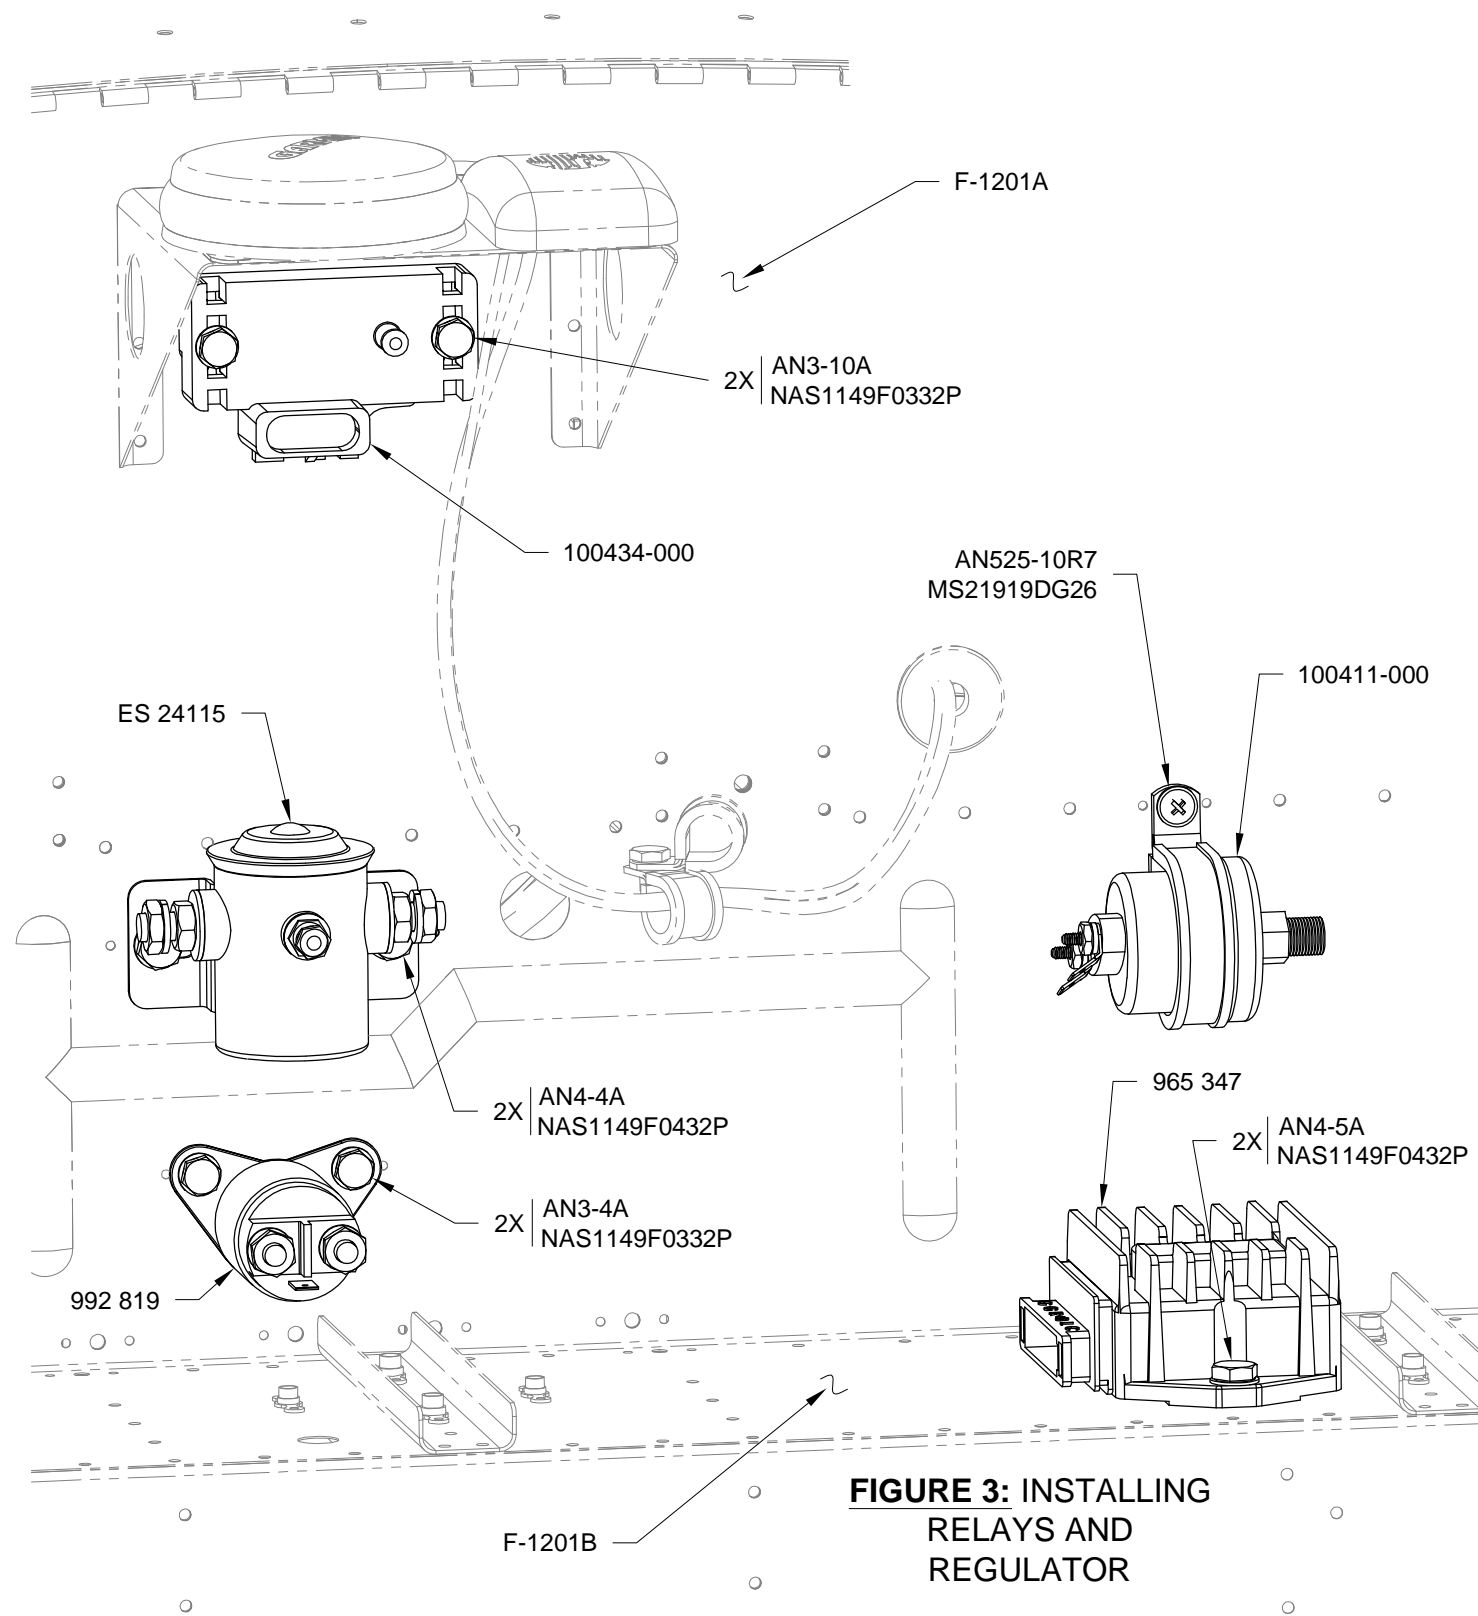

FIGURE 3: INSTALLING RELAYS AND REGULATOR
Step 4: Install the ES 24115 Master Relay, 992 819 Starter Relay, 100434-000 Manifold Pressure Sensor, 100411-000 Fuel Pressure Sensor and 965 347 Rectifier Regulator to the F-1201A Firewall Upper and F-1201B Firewall Shelf using the hardware callouts in Figure 3.